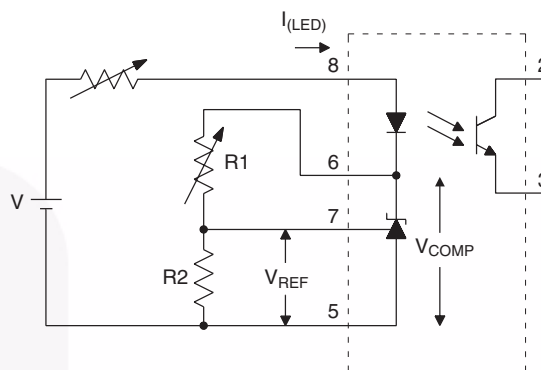

Figure 2. $\Delta V_{REF}/\Delta V_{COMP}$ Test Circuit
2. The dynamic impedance is defined as $|Z_{OUT}| = \Delta V_{COMP}/\Delta I_{LED}$. When the device is operating with two external resistors (see Figure 2), the total dynamic impedance of the circuit is given by: